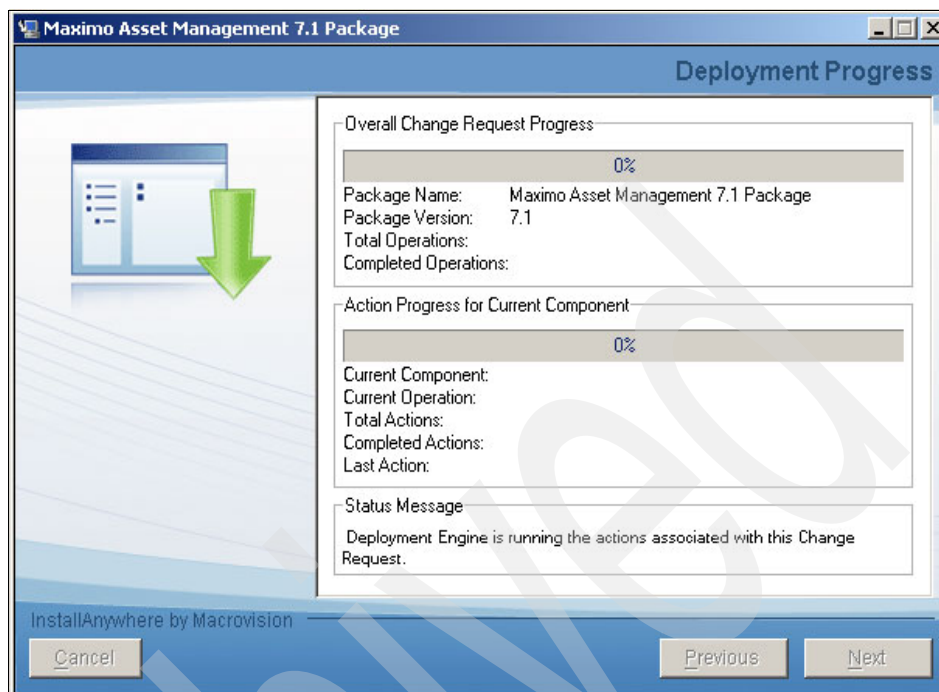

Figure 5-32 Deployment Progress
6. At this point, the Process Solution installation program begins the package installation process. The Deployment Progress panel (see Figure 5-32 on page 108) displays the deployment progress of the installation.